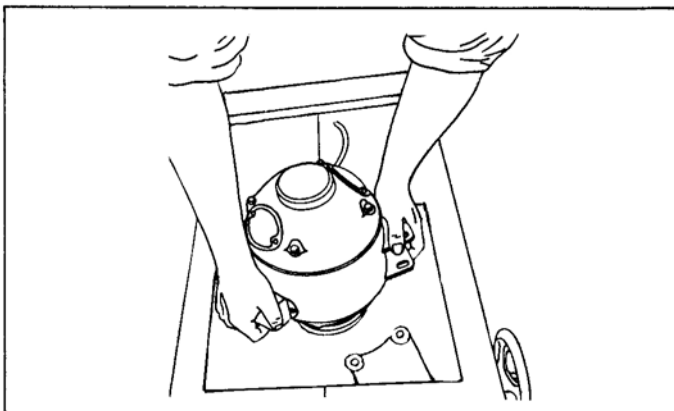

Fig. 4.
5. Lower the motor into the cabinet, as shown in Fig. 4, by swinging it into line with the hole in the cabinet to allow hands to clear.